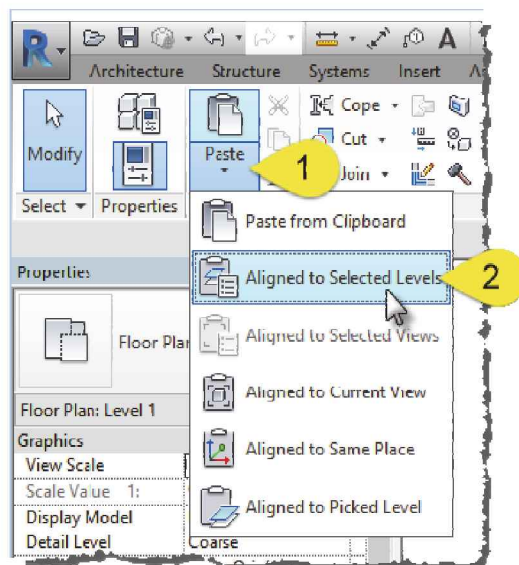

FIGURE 5-4.18 Select levels options
26. Without the need to leave the **Level 1** view, click **Modify** → **Clipboard** → **Paste** → **Aligned to Selected Levels** (Figure 5-4.18).